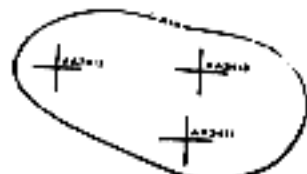

Figure 3-8. Group of Targets.
b. Two or more targets on which fire is desired simultaneously compose a group of targets, i.e. AIA (figure 3-8). Each target within the group has a target number for quick reference in order for the unit leader to request fire on single targets, i.e., AA3412 (figure 3-8).